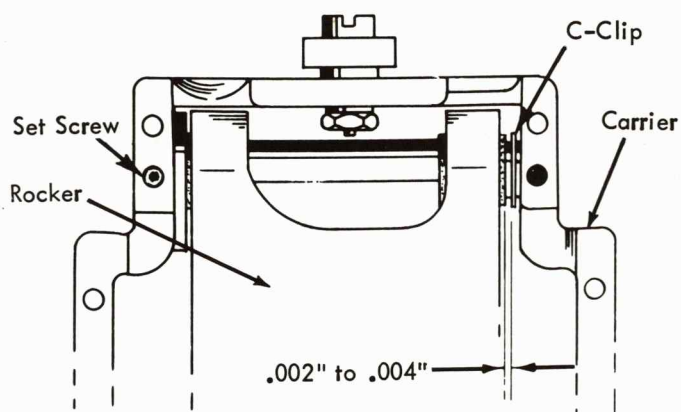

FIGURE 52. Rocket Shaft Adjustment
7. **Rocker Shaft** - Adjust the rocker shaft left or right to obtain .002" to .004" side play in the rocker (Fig. 52).